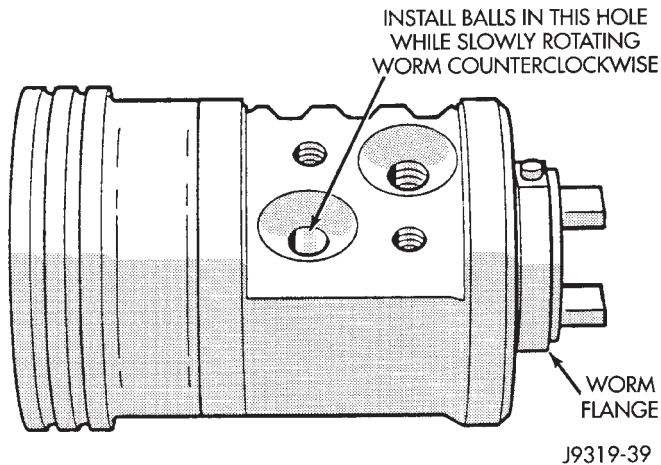

Fig. 22 Installing Balls in Rack Piston
(1) Check for scores, nicks or burrs on the rack piston finished surface. Slight wear is normal on the worm gear surfaces.
(2) Install O-ring and teflon ring on the rack piston.
(3) Install worm shaft in the rack piston and align worm shaft spiral groove with rack piston ball guide hole (Fig. 22).
(4) Lubricate and install rack piston balls through return guide hole while turning worm shaft COUNTERCLOCKWISE (Fig. 22).